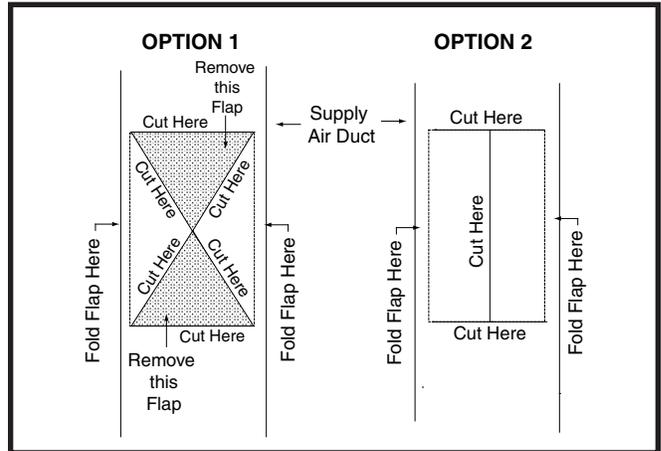

Figure 12. Narrow Air Duct Openings
1. Score and cut the top of the supply air duct as indicated in Option 1 or Option 2. See Figure 12 \(page 8\). **NOTE:** If Option 1 is selected, cut out the metal from the shaded area.